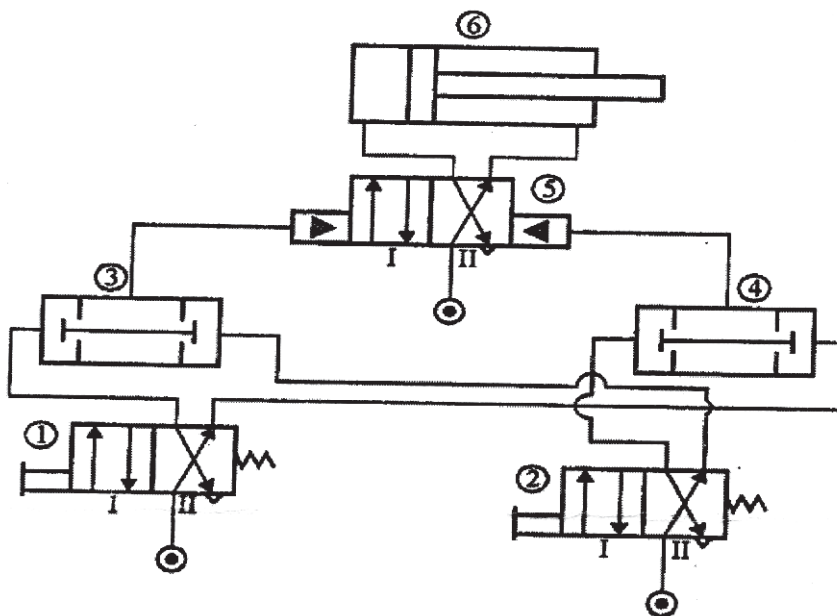

Fig. 8b
b) Analyze the circuit and label the components in given circuit as shown in Figure 8b. [6]